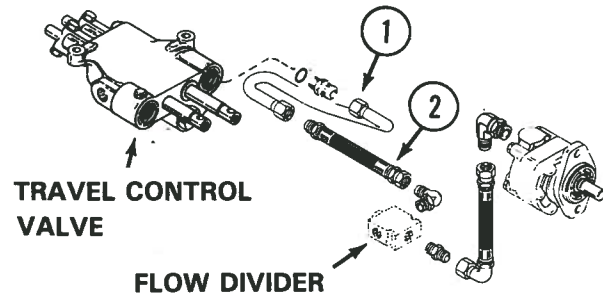

FIGURE 6 - 3000/4000 SERIES TRACTOR W/POWER STEERING - Travel Control Oil supply prior to Hydraulic PTO Installation.
1. Figure 6. Remove original supply hose (Item 1) and steel tube (item 2) that goes from flow divider valve to inlet on travel control valve. These items are not re-used.